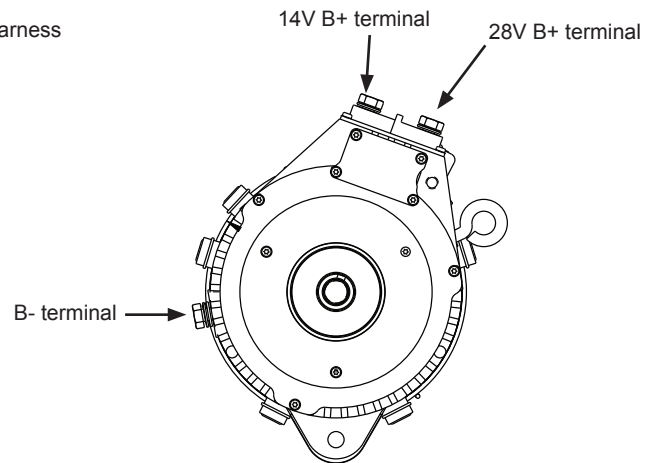
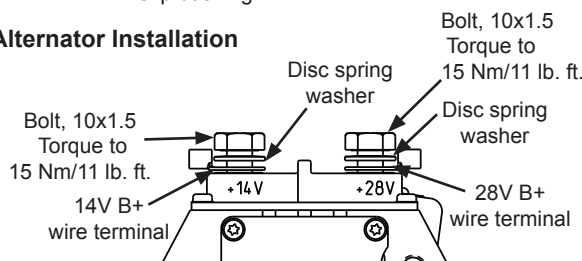
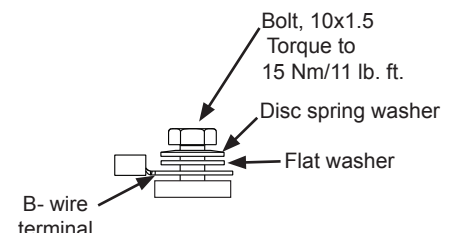

Figure 2: B+/B- Terminal Connections
Figure 3: B+Terminals Hardware Stacking Order
Figure 4: B-Terminal Hardware Stacking Order
5. Connect vehicle 14V/28V B+ cables to alternator 14V and 28V terminals, shown in Figure 2. Install B+ terminal hardware in stacking order shown in Figure 3. Torque hardware to 15 Nm/11 lb. ft.
6. Connect vehicle B- cable to alternator B- terminal, shown in Figure 2. Install B- terminal hardware in stacking order shown in Figure 4. Torque hardware to 15 Nm/11 lb. ft.